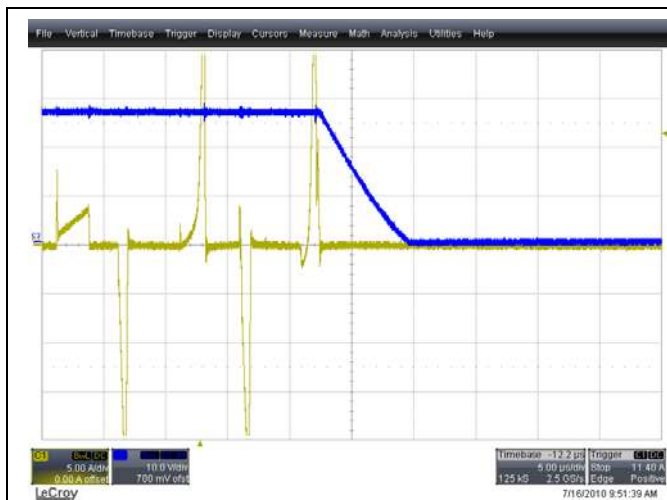

Figure 52 - Synchronous rectifiers shorted, 48VDC, 8A load
B. **Internal short circuit action on OrFET:** Figure 52 and Figure 53 shows the OrFET disabled during an internal short circuit and its corresponding flag. An internal short of the synchronous rectifiers can be simulated in the PWM settings or by physically shorting the drain pin of Q2 and Q3. The CS1 fast OCP or the UVP flags can be set to disable the OrFET.